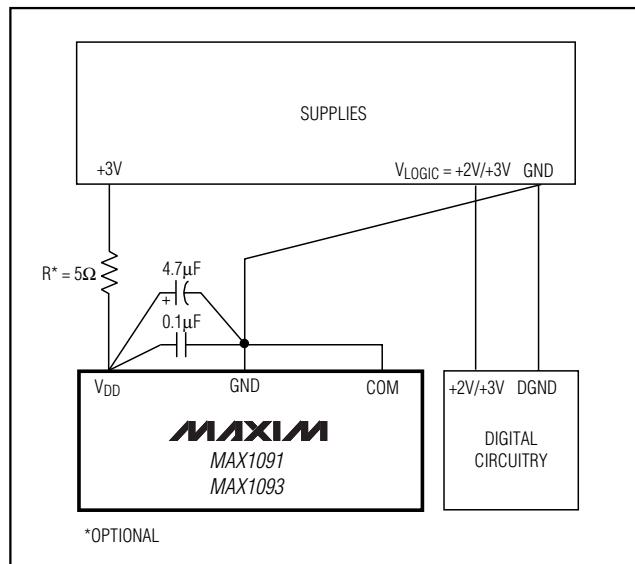

Figure 11. Power-Supply and Grounding Connections
For best performance, use printed circuit (PC) boards. Wire-wrap configurations are not recommended since the layout should ensure proper separation of analog and digital traces. Do not run analog and digital lines parallel to each other, and don't lay out digital signal paths underneath the ADC package. Use separate analog and digital PC board ground sections with only one star point (Figure 11) connecting the two ground systems (analog and digital). For lowest-noise operation, ensure the ground return to the star ground's power supply is low impedance and as short as possible. Route digital signals far away from sensitive analog and reference inputs.